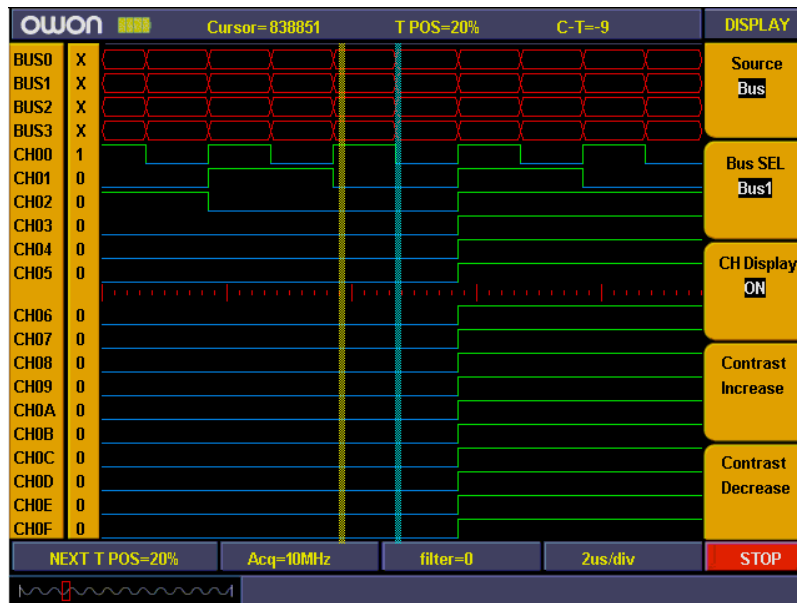

Fig.4-14
7. Press "F3" and set signal sources as "OFF". Repeat operation of steps 6.7 and set BUS1、BUS2、BUS3 all as "OFF". Ref to Fig.4-14.